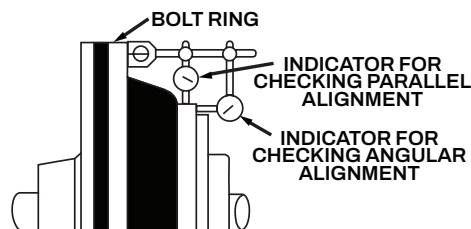

Figure 3
5. **Check Shaft Alignment:** Although shafts may be perfectly aligned at installation, some parallel and angular misalignment usually develops in usage because of shift of the driving and driven units. Check both parallel and angular alignments by mounting indicators near the O.D. of the flange as shown in Figure 3 and rotate the coupling thru 360°. For good installation neither indicator reading should exceed the value shown in column "D" in Table 1. Both alignments should be rechecked after any repositioning.